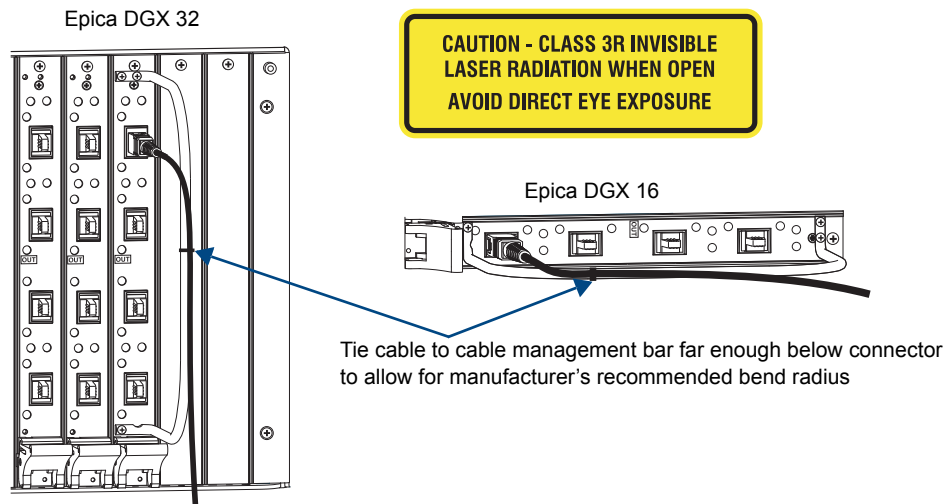

FIG. 34 Fasten cables onto input and output connectors (shown with cable management bar)
4. Insert the fiber cable connector into the input and output SC fiber receptacles (FIG. 34).